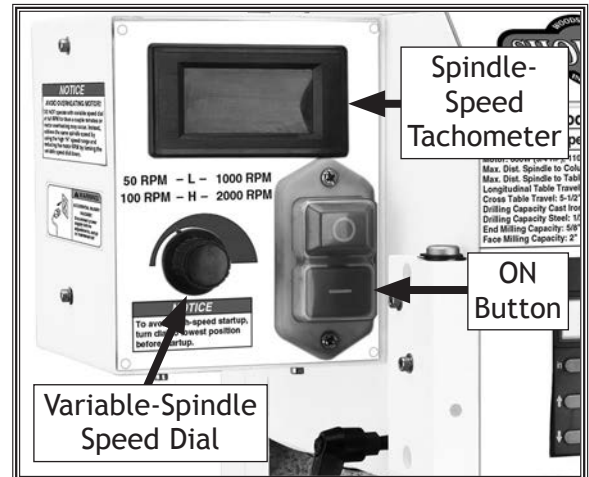

Figure 33. Spindle-speed controls.
2. Rotate variable-speed spindle dial fully counterclockwise to set spindle speed at lowest value (see **Figure 33**).